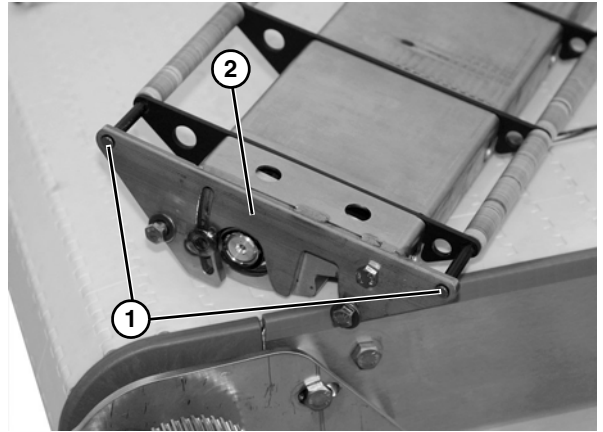

Figure 34
- Install rods (**Figure 34, item 1**) so they remain flush with power transfer bracket surface (**Figure 34, item 2**).